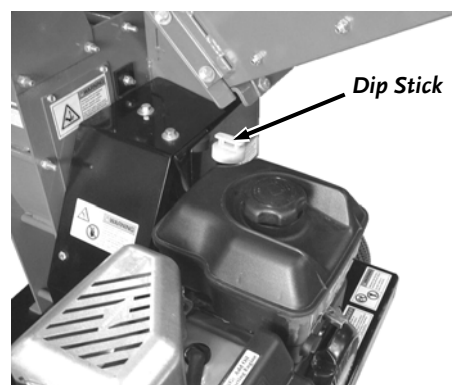

Figure 9
1. Place the machine on a level surface and remove the Dipstick (clean the end of the Dipstick with a rag) (**Figure 9**).